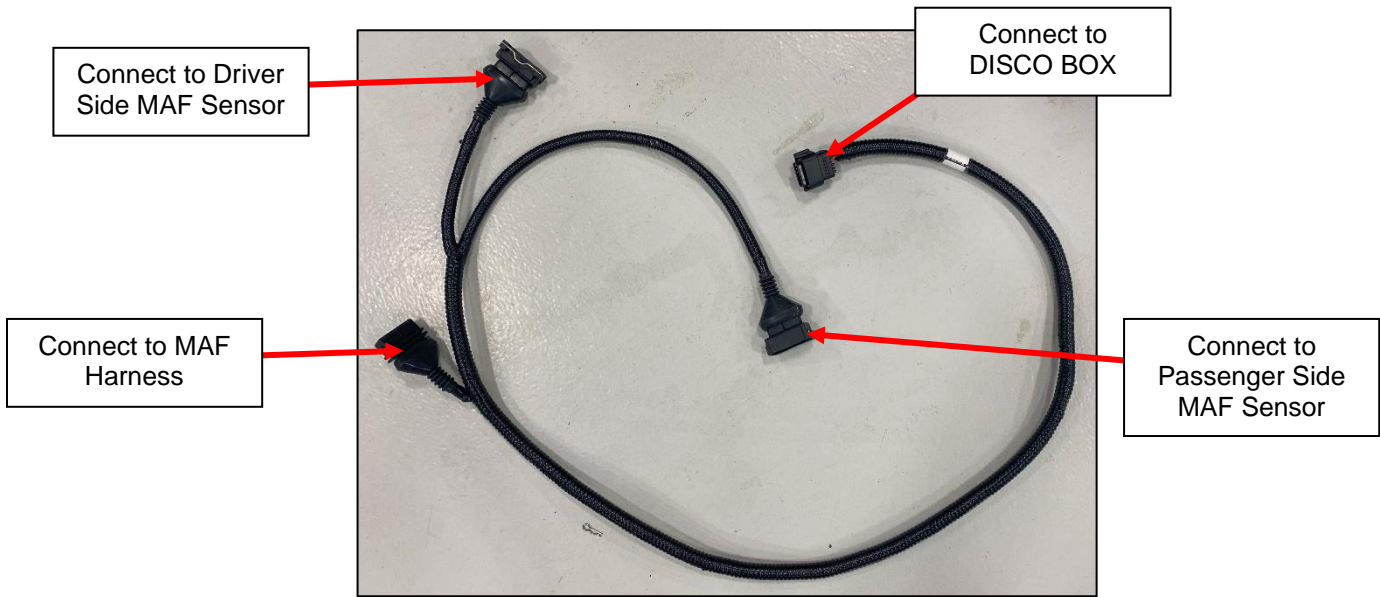
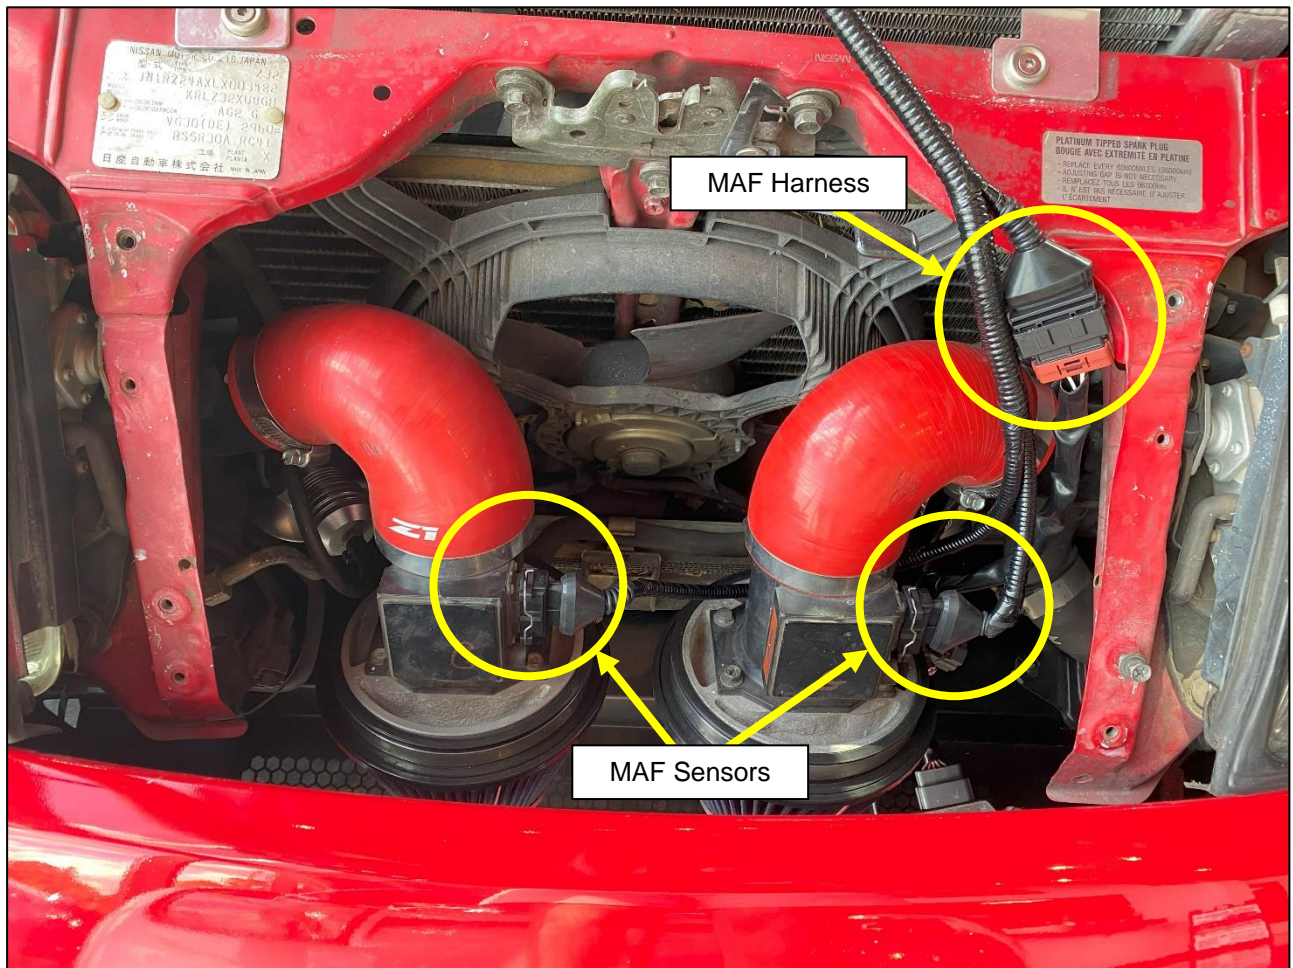

Figure 7
Figure 8
12. Locate your DISCO Box Wiring Harness. Starting with the MAF Sensors, connect the Wiring Harness to the corresponding locations as shown below in *Figure 7*, and *Figure 8*.